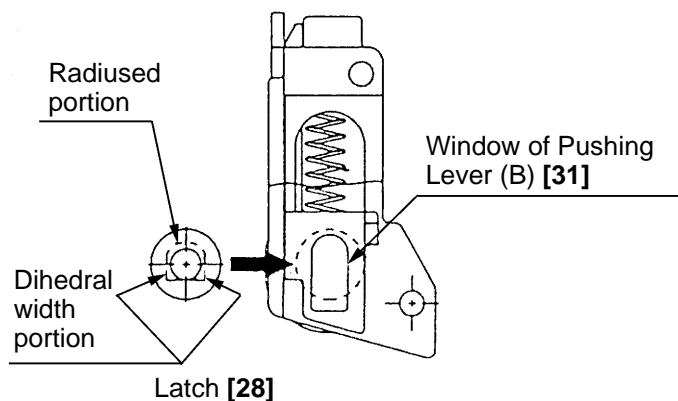

Fig. 15
- Align the dihedral width portion and the radiused portion of the Latch [28] to the window of Pushing Lever (B) [31] when reassembling (Fig. 15).